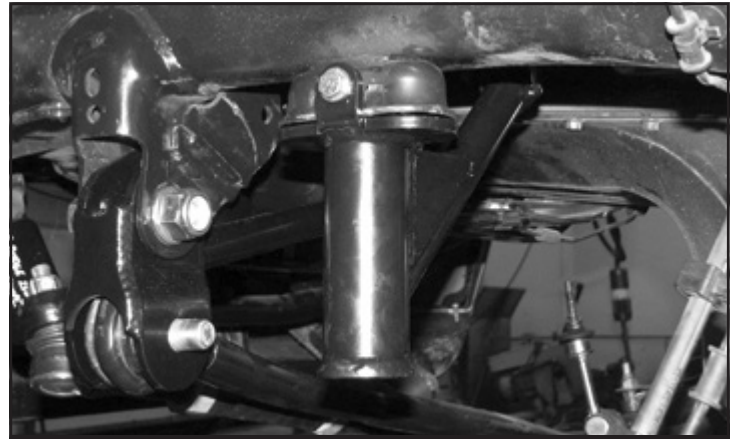

FIGURE 25 - STEP 30
30. Locate a 5/16"-18 x 2-1/2" bolt, nut and washers. Using this bolt, secure the bump stop to the factory bump stop mount and torque to 29 ft-lbs. **SEE FIGURE 25**